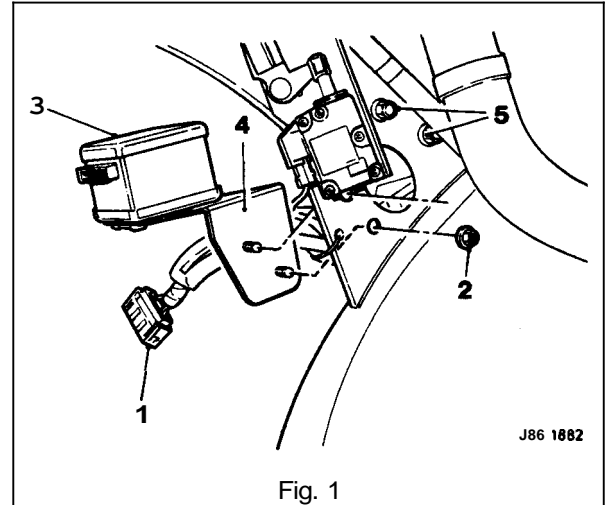

Fig. 1
- Disconnect the inclination sensor multiplug. (1 Fig. 1).
- Undo and remove the sensor mounting bracket securing nuts (2 Fig. 1). Remove the sensor (3 Fig. 1) complete with mounting bracket (4 Fig. 1).